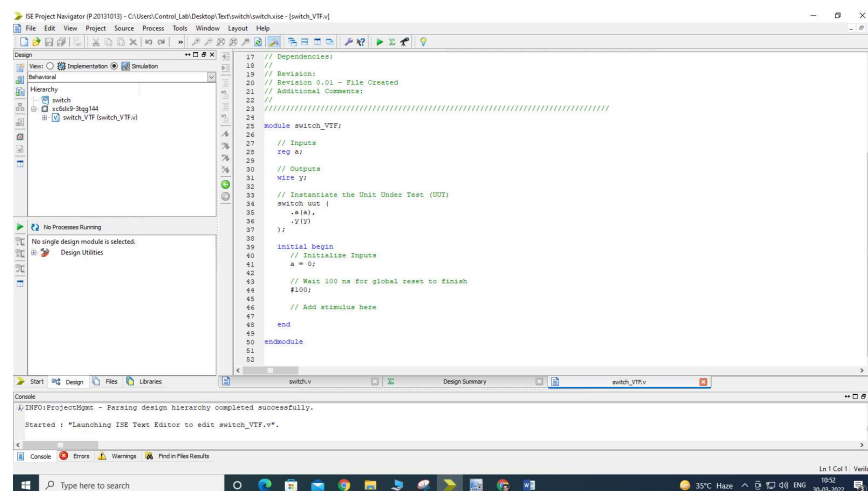

Fig 1.17: Test bench template
19. The ISE project navigator will generate template for the test bench as shown in the Fig 1.17.